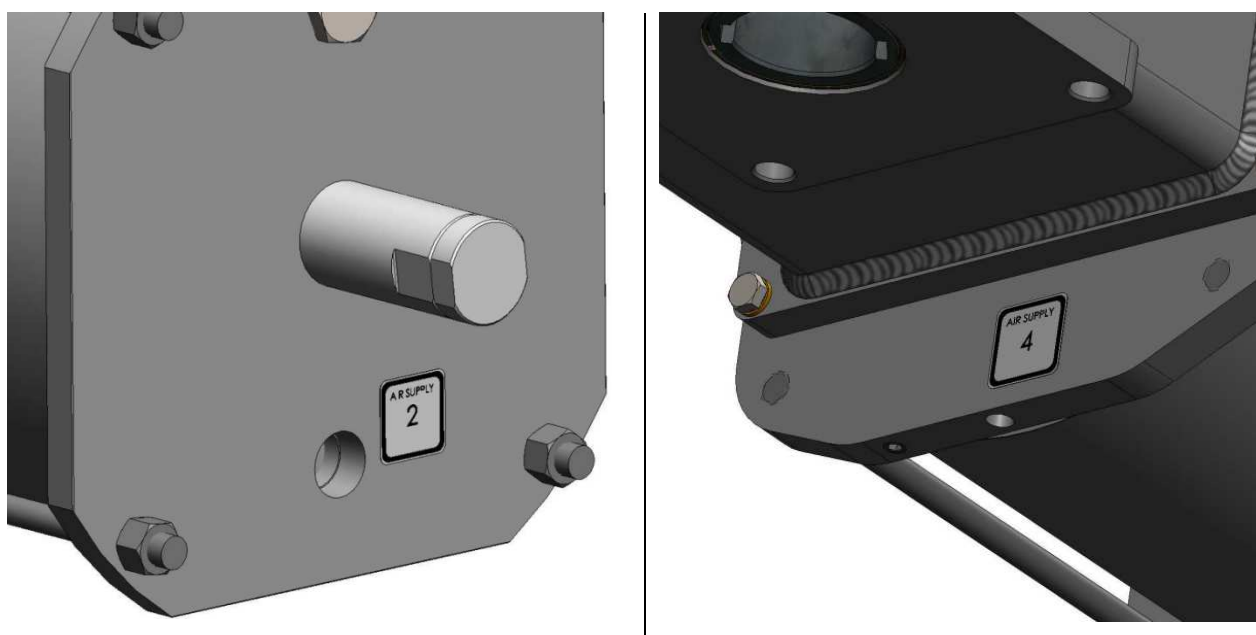

Figure 4: typical supply ports marking for double acting actuators
- Figure 4 shows typical labelling for pneumatic connection on double acting actuators.